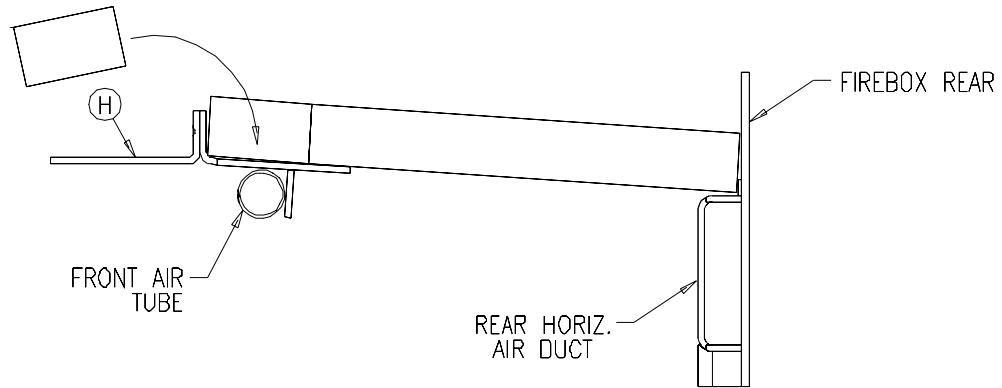

Figure 3.2e
4. Starting with the sliding bricks under baffle board first, install the four full bricks (1.25 x 4.50 x 9.00) by positioning the brick(s) under the baffle support assembly (H). Lift the front of the brick over the support and move it forward, then lift the back of the brick up and onto the rear horizontal air duct (see figures 3.2c and 3.2d). The front of the bricks should then rest on the back of the support assembly (see fig.3.2e).